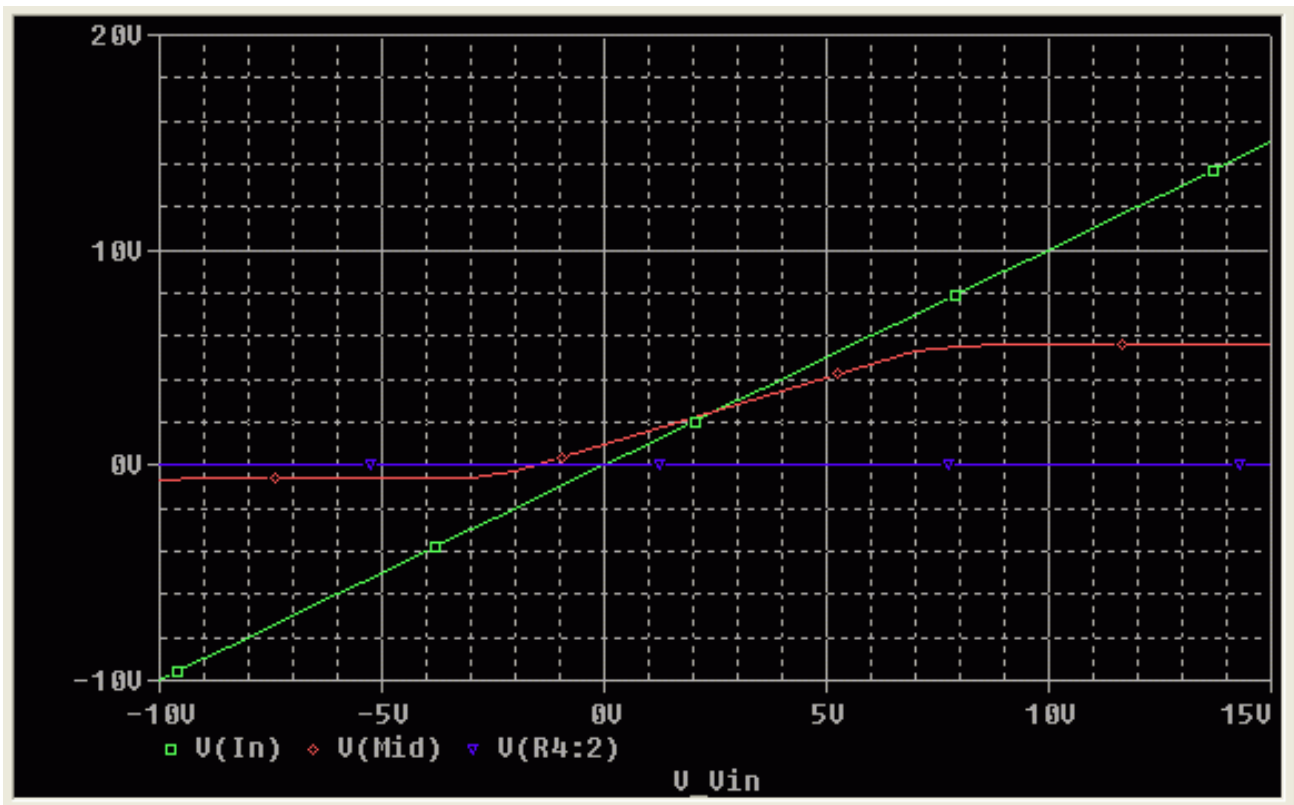

Figure 2-10 Voltage at In, Mid, and Out.
5. Switch to PSpice. The V(Out) waveform trace appears, as shown in Figure 2-10.